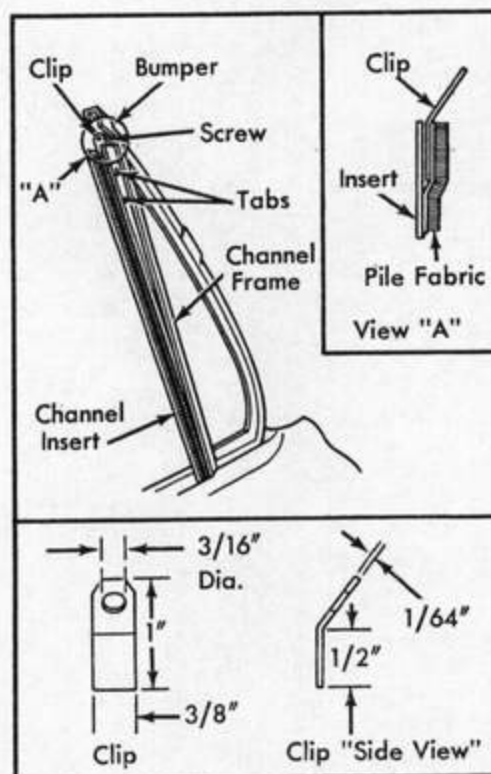

Fig. 3
1. Open the two tabs which secure the ventilator division channel insert to the ventilator division channel. These tabs are located below the division channel upper rubber bumper as shown in Fig. 3.
4. As the two reworked retaining tabs no longer secure the division channel insert, make and install a non-corrosive metal clip between the pile fabric and metal backing of the division channel insert. See Fig. 3.